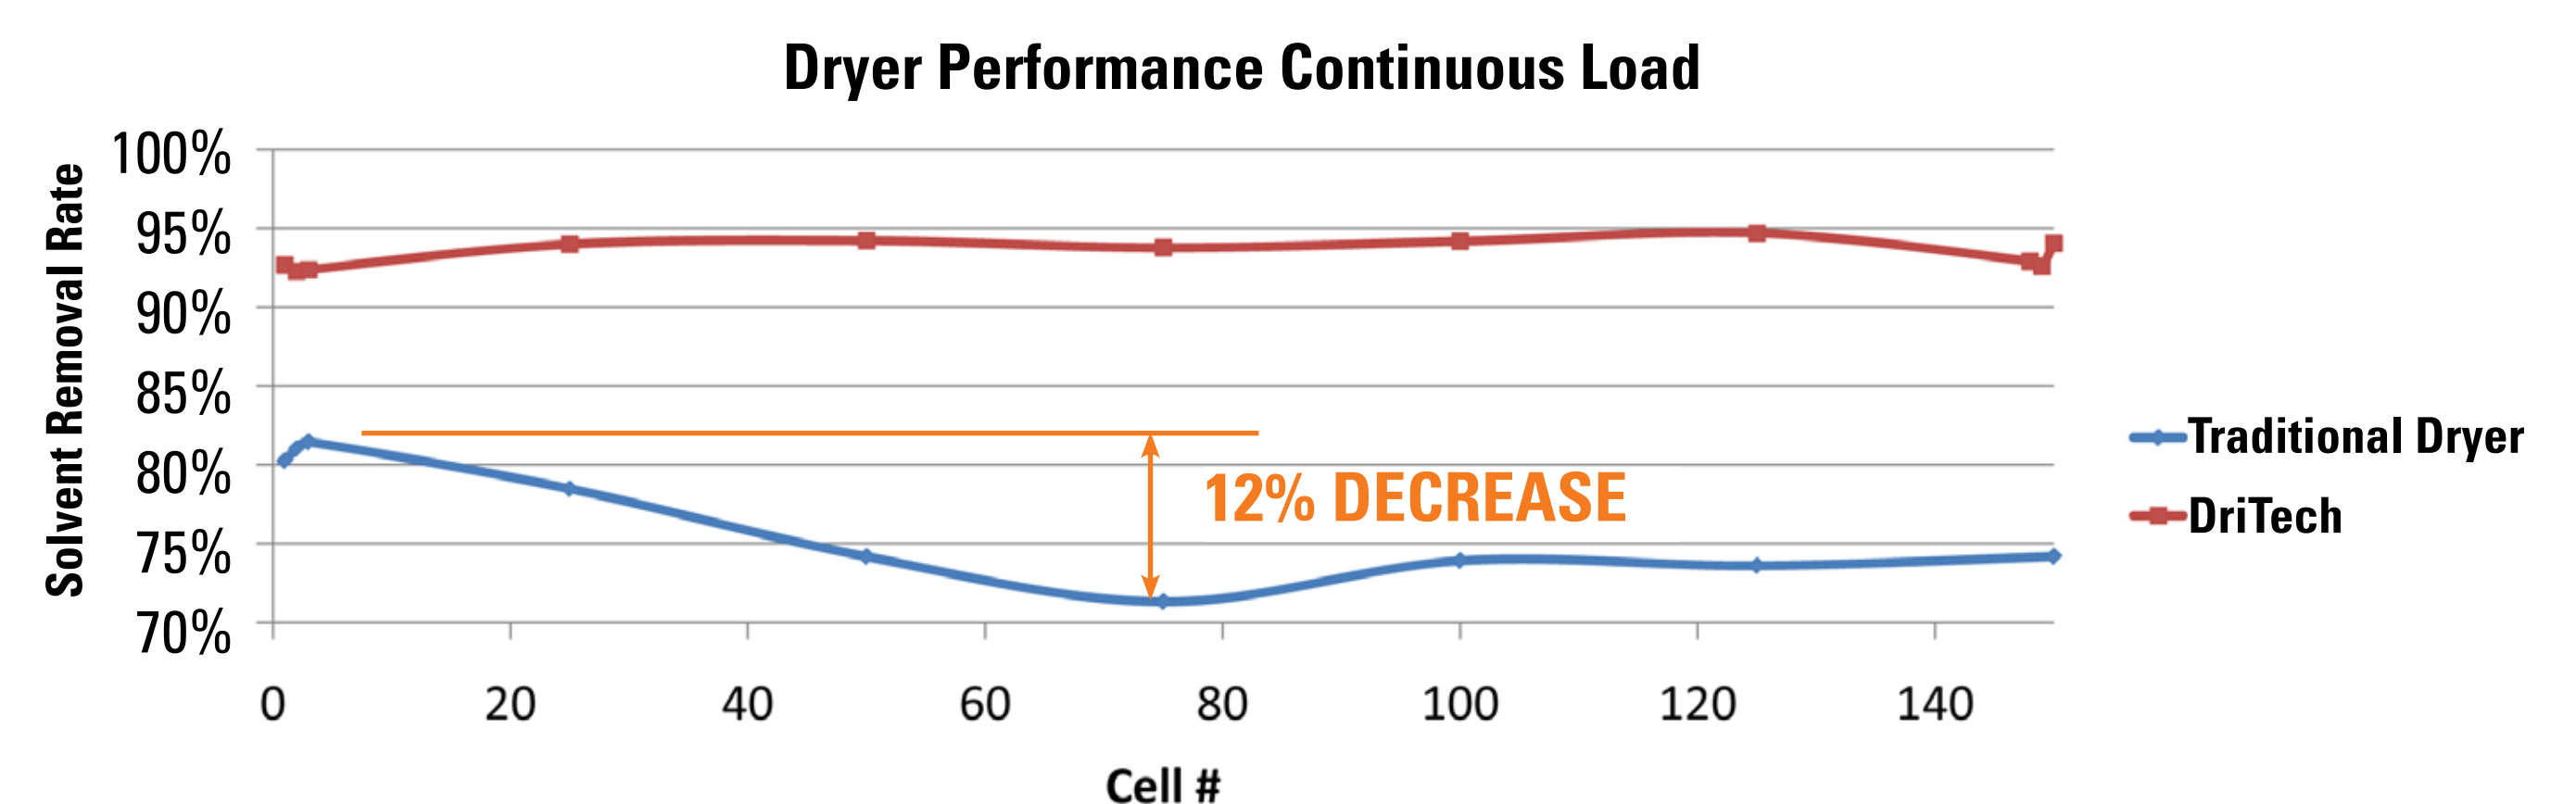

Figure 7: Comparison of drying performance during continuous load between traditional dryer and DriTech with optimized exhaust management
- ◆ DriTech with new exhaust management exhibits constant solvent removal rate during mass production load (figure 7)